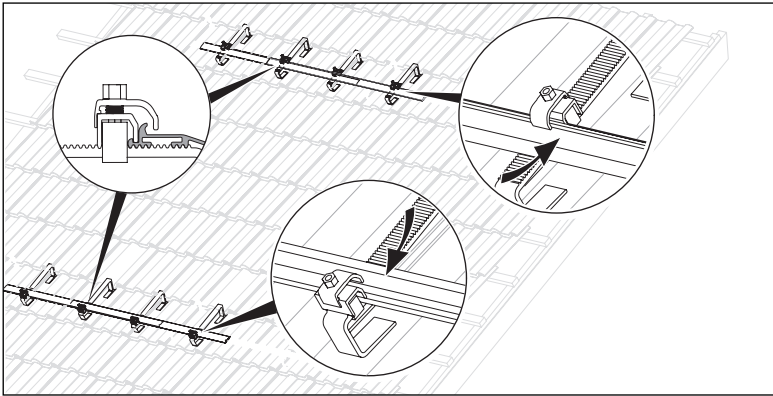

Fig. 6.8 Fixing the mounting rails
- Join the mounting rails and fix them with the clamping elements on the roof anchors (see Fig. 6.8).